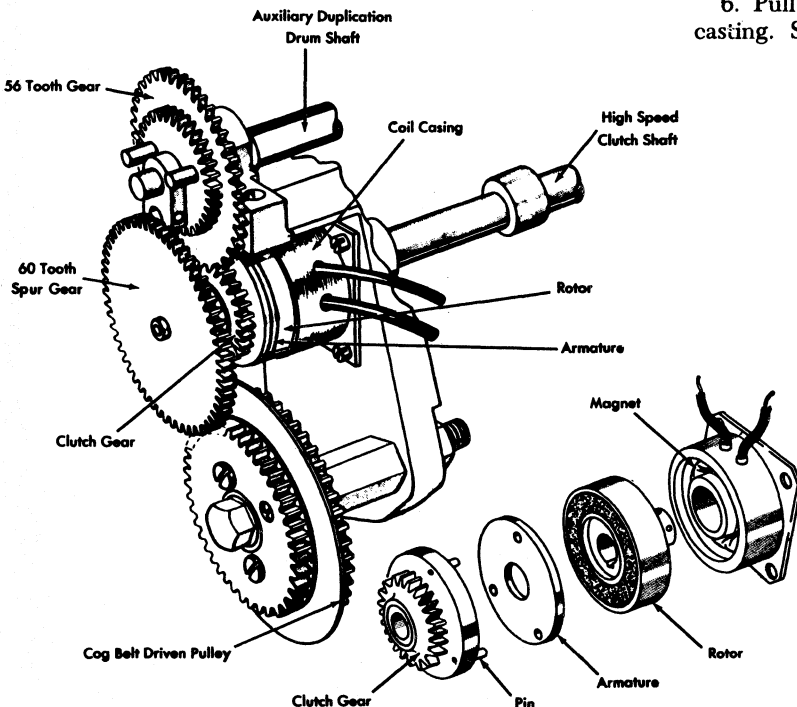

Figure 104. High-Speed Clutch
1. Remove large cog belt drive pulley (Figure 104) and cog belt.